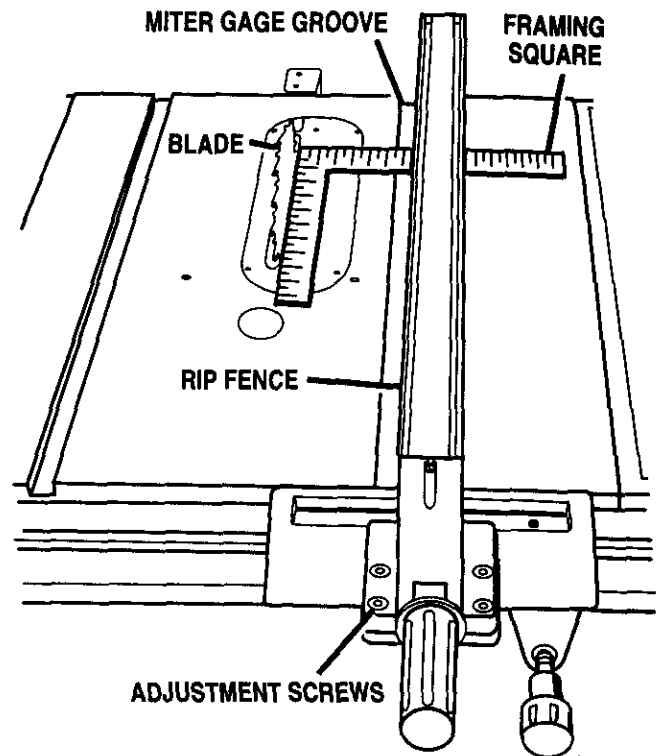

Fig. 37
- Move the square to the back and measure the length from other end of the fence. See Figure 37.